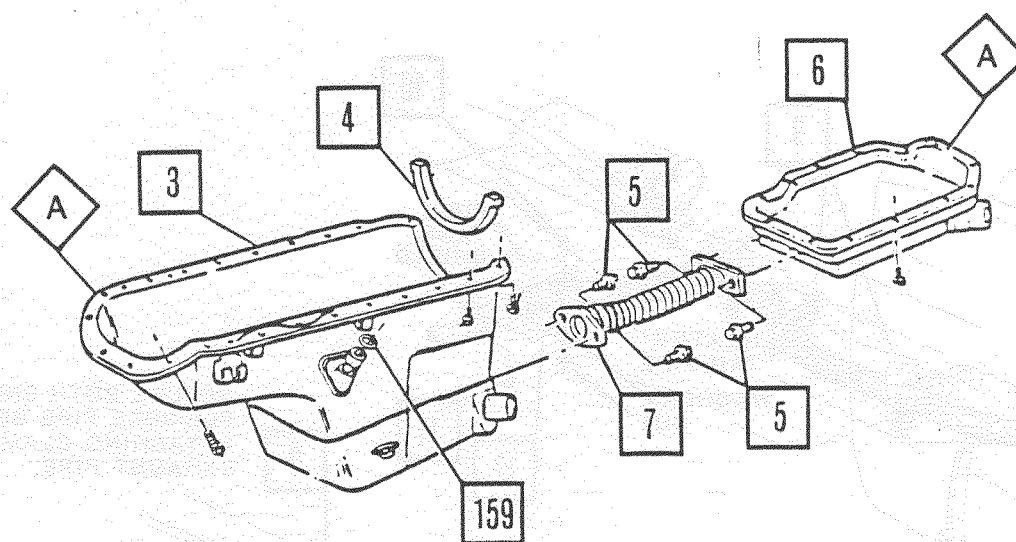

Figure 2.
21. Install new rear pan seal on engine (Figure 2.).
23. Place 3/16 inch bead of RTV sealer on lip of new winterized oil pan and install (Figure 2.). Tighten two rear bolts to 15-20 lb.-ft. (20.0-27.0 Nm). Tighten remaining bolts to 55-90 lb.-in. (6.0-10.0 Nm).
35. Connect new winterized engine oil pan and new winterized transmission oil pan with new short exhaust pipe (Figure 2.). Tighten new screws to 40-60 lb.-in. (4.5-7.0 Nm).